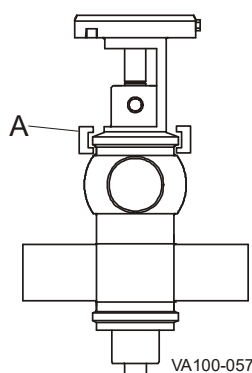

Figure 21 - Location of Adapter Clamp
- Remove the clamp between the yoke and the adapter (Figure 21, item A).
- Re-fasten the clamp between the yoke and the adapter (Figure 21, item A), then remove the air pressure to cycle the valve closed.